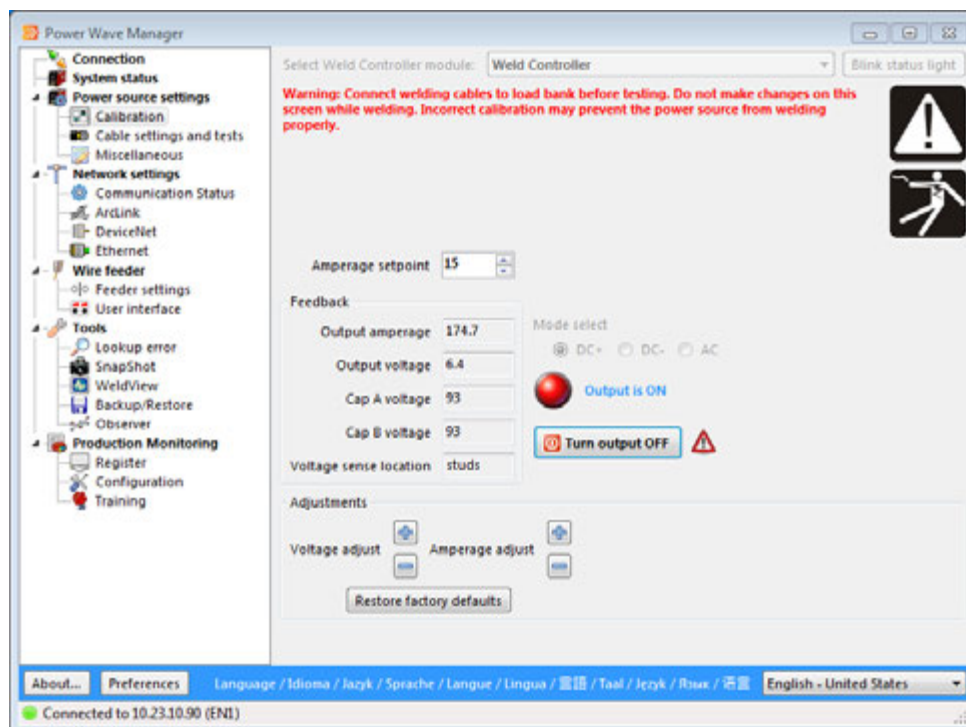

Figure 6.1 Calibration
6. Use the plus and minus icons (⊕ and ⊖) to the right of Amperage adjust (Figure 6.1) to calibrate the Welding Power Source to the value you set in Power Wave® Manager.	This adjusts the actual measured values on the Welding Power Source to match Power Wave® Manager.
7. Use the plus and minus icons (⊕ and ⊖) to the right of Voltage adjust (Figure 6.1) to calibrate Power Wave® Manager to the Welding Power Source.	This adjusts the feedback in Power Wave® Manager to match the Welding Power Source. STOP Do not calibrate voltage at voltages greater than 50V.